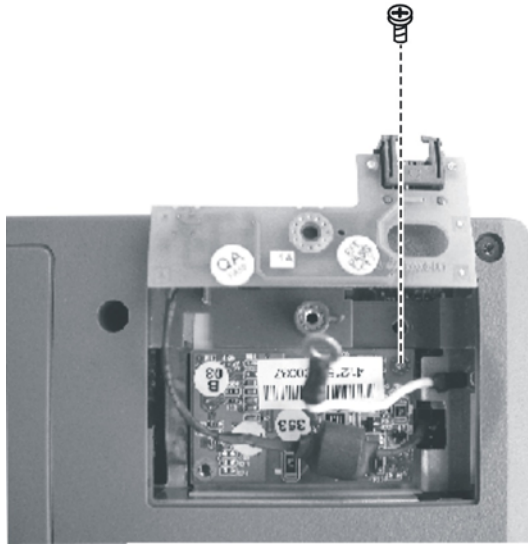

Figure 2-7
4. Slightly lift up the connector board, and then remove one screw fastening the modem card. Now you can take out the modem card from the compartment. (figure 2-7)